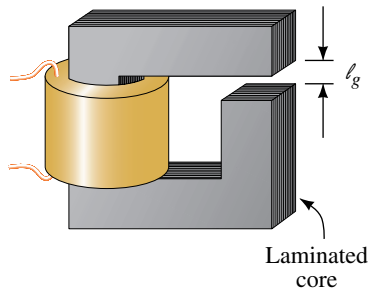

FIGURE 13-10 Iron-core coil with an air gap to control saturation.
To provide greater inductance in smaller spaces, iron cores are sometimes used. Unless the core flux is kept below saturation, however, permeability varies and inductance is not constant. To get constant inductance an air gap may be used (Figure 13-10). If the gap is wide enough to dominate, coil inductance is approximately
EXAMPLE 13-4 The inductor of Figure 13-10 has 1000 turns, a 5-mm gap, and a cross-sectional area at the gap of $5 \times 10^{-4} \text{ m}^2$. What is its inductance?
2. If you triple the number of turns in the inductor of Figure 13-10, but everything else remains the same, by what factor does the inductance increase?